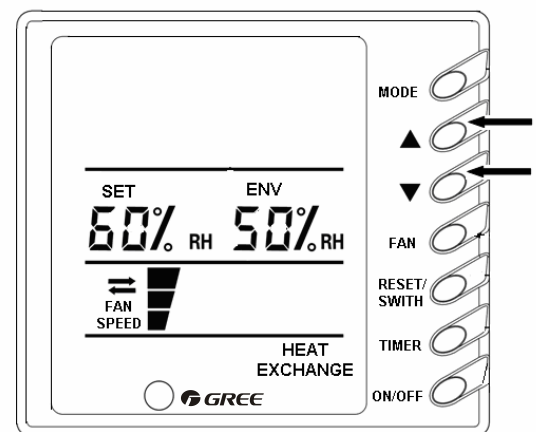

Fig.6
3) Humidity Adjustment (Fig.6)